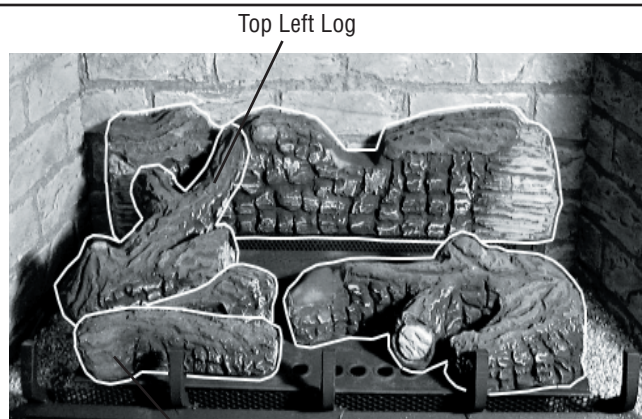

Figure 31
4. Place the Front Left Log onto the 2 corresponding locating pins, then place the Top Left Log onto the locating pin on the Left Center Log (the log will rest in the corresponding indent on Rear Log). See Figure 31.